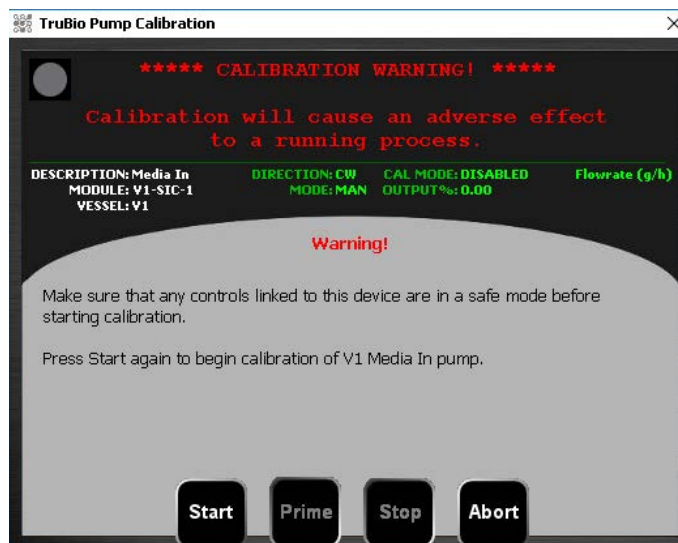

Figure 2.35. Calibration warning screen.
6. At the warning screen (Figure 2.35), ensure that the device is in a safe mode and click **Start** again.